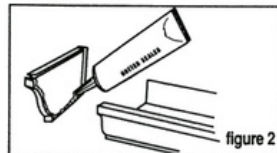

figure 2
Fill the joining area of the end cap (5) or (6) with Gutter Sealer (15) and press into place (figure 2). To join two gutter sections, notch the top front bead to allow an overlap of 2". Apply Gutter Sealer around overlapping surface of one section and press together. Apply a bead of sealer along the inside edges of all joints.